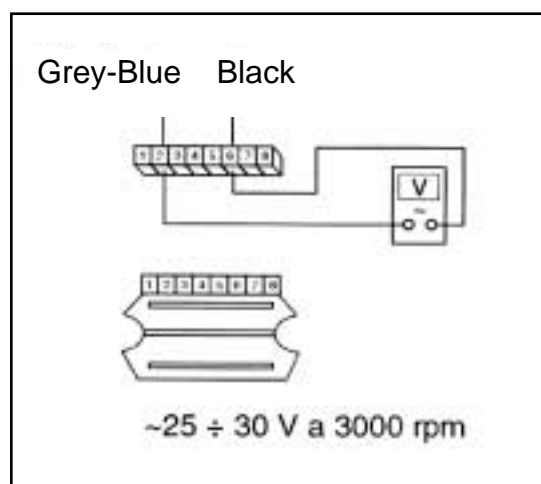

Fig. 1
- a) Check for proper distribution of current from the stator: disconnect from the regulator terminal and insert alternating current tester 020331Y between the blue/green terminal and the black cable, and check that the voltage distributed at 3,000 rpm falls between 25 ÷ 30 VAC (Fig. 1)